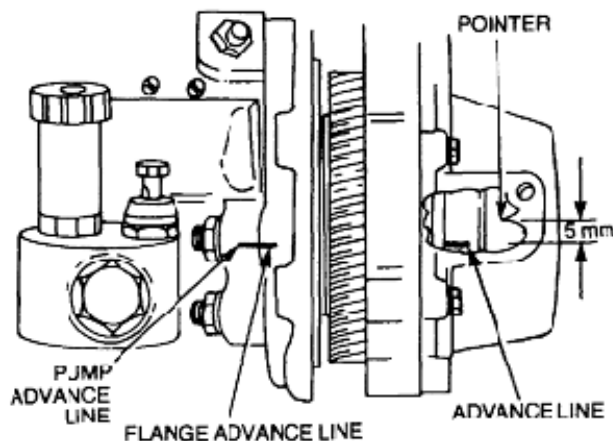

Figure 33 Injection Pump Installation
- e. Install a new flange gasket and the pump and check that the advance line is approximately 5 mm below the pointer on the timing case aperture (Figure 33).